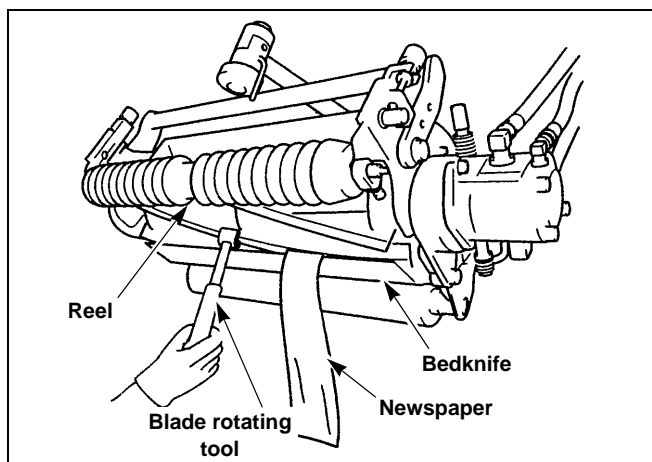

Figure 4-59
2. Determine the cutting quality of each cutting unit. Adjust the reel to bedknife clearance so the bedknife is parallel and just touching the reel. In very small increments, back the bedknife off **EVENLY** on both sides (.001" - .002")(.0254mm - .0508mm) so it has minimal clearance from the reel and is not making contact. Insert a piece of newspaper between the rotary blades of the reel and the bedknife. Turn the reel with the blade rotating tool in the cutting direction to cut the newspaper and test the cut quality. The newspaper should be cut cleanly without pinching or tearing. Note the cut quality to determine the need for clearance adjustment and required backlapping. Figure 4-59